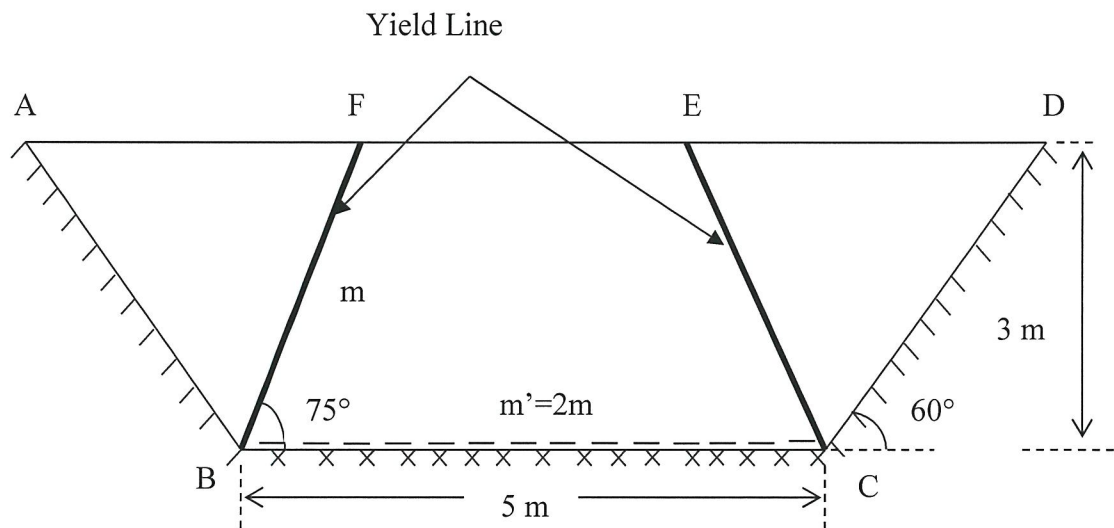

FIGURE Q5(b)
(b) A trapezoidal slab ABCD is simply supported along the two edges, AB and CD, and pinned along BC. The slab is subjected to a uniformly distributed load of 12 kN/m^2 as shown in **FIGURE Q5(b)**. Determine the maximum resistance moment for the failure mechanism of the slab if edge EF displaced **ONE (1)** unit.